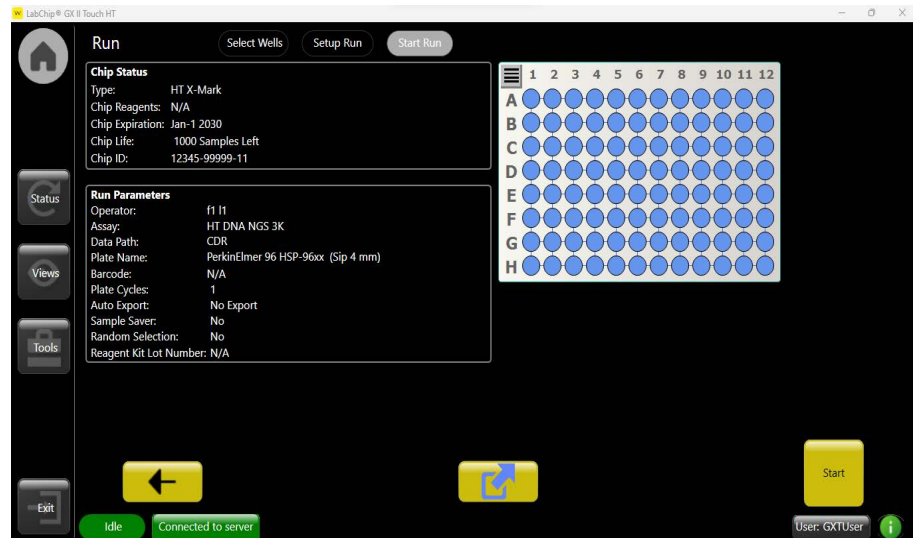

Figure 13. Start Run Tab
- 5 Touch the **Green Arrow** button. The Start Run tab (Figure 13 on page 20) opens.